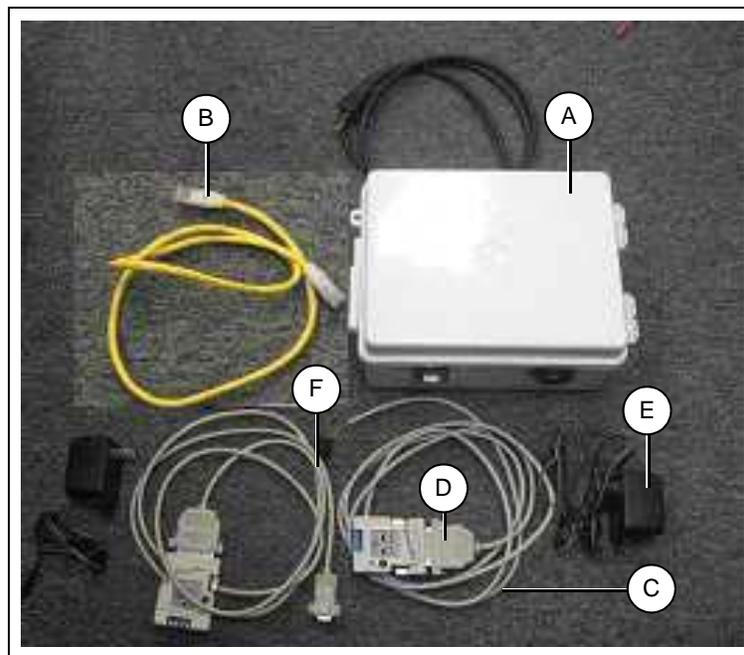

Figure 4A WatchDog System Components for Direct Connected Type (Part # VIS-WATCH-DC)
1. Direct Connect (Part # VIS-WATCH-DC) - This option allows the user to connect their dryer directly to their PC using two (2) short haul MODEMs and four (4) wires (Ethernet Cable). The contents of this option are pictured in Figure 4A.
The direct connection style setup (GSI Part # VIS-WATCH-DC) allows the user to connect his PC to the WatchDog System using two (2) short haul MODEMs. One MODEM will reside at the dryer, while another is located at the PC. Figure 4A on Page 11 shows the components included in this setup. The components are listed as follows:
2. Two (2) Short Haul MODEMs.
6. Ten (10) cable ties for routing wires.
2. Connect a short haul MODEM at the dryer. The cable (Modified Serial, *Figure 4A on Page 11*, Ref # C) supplied with the WatchDog shown in *Figure 4A on Page 11* should be plugged into the AUX port on the Display I/O Board (printed circuit board behind 10.4" color display) and the other end to a short haul MODEM. The short haul MODEMS power supply should be plugged into a 120 VAC receptacle (not provided) and the barrel connector into the short haul MODEM.
3. Connect the WatchDog to the Customer's PC via Ethernet cable (*See Figure 4A on Page 11*, Ref # B). The cable plugs into the RJ-45 connector on the side of the WatchDog enclosure (*See Figure 5A on Page 15*) and connects to an Ethernet connector on the customer's PC.
4. Connect the WatchDog Enclosure to the other short haul MODEM via the 9 pin to 25 pin serial cable (Ref # F in *Figure 4A on Page 11*). *Figure 5A on Page 15* shows this connection made.
H	Use modified serial cable (Figure 4A on Page 11 , Ref # C) to connect this short haul MODEM to Display I/O port on Vision Dryer. (See Figure 5A on Page 15.)
I	Use serial cable (Figure 4A on Page 11 , Ref # F) to connect this short haul MODEM to the WatchDog Enclosure's serial port. (See Figure 5A on Page 15.)